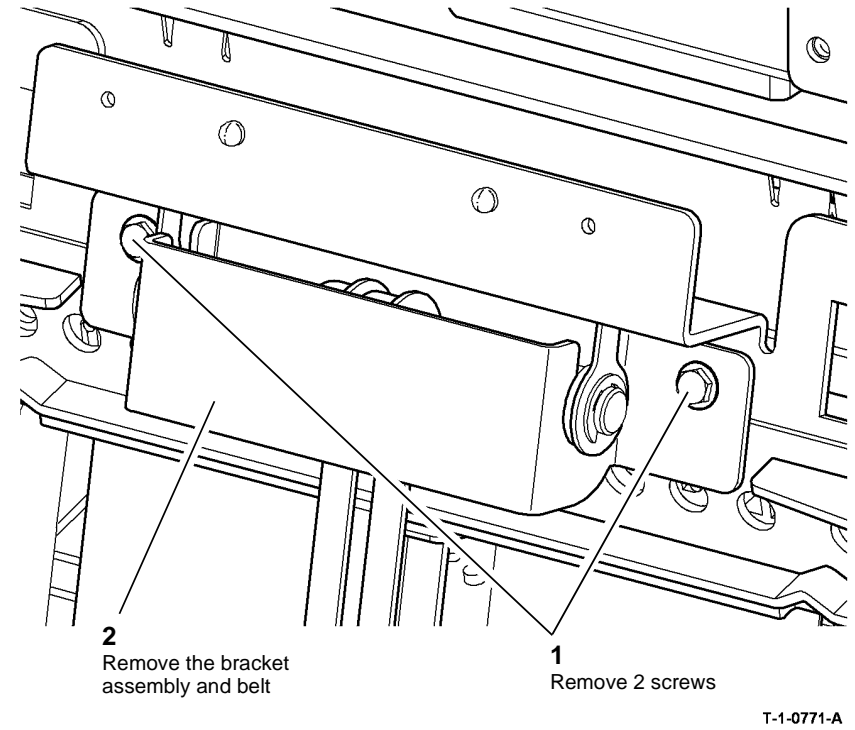

Figure 3 Idler bracket assembly removal
12. Figure 3, remove the BM backstop idler bracket assembly.
2. Allow the BM backstop belt to be tensioned correctly before the bracket assembly securing screws are tightened. Refer to Figure 3.